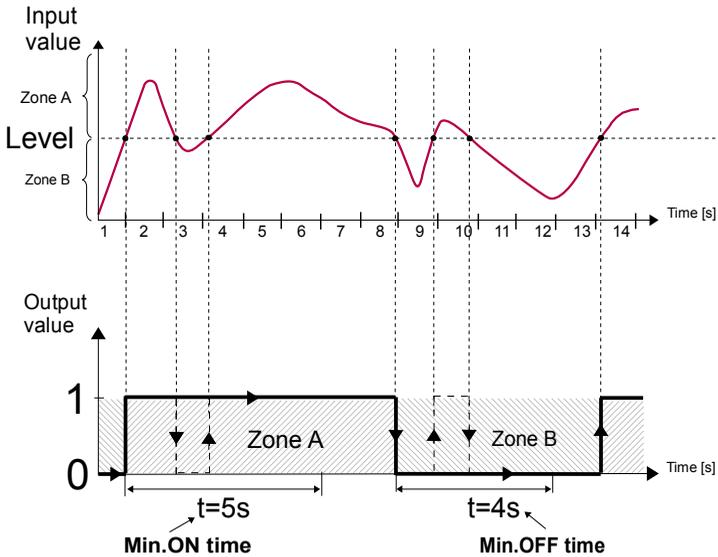

Fig. 7.87. Principle of relay output operation for sample timing settings:
- **Minimum ON time** - the minimum duration of a high state (if the output switches to high state the low state will occur after this time) - see Fig. 7.87,
- **Minimum OFF time** - the minimum duration of a low state (if the output switches to low state the high state will occur after this time) - see Fig. 7.87,